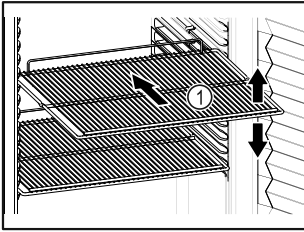

Fig. 60
- If there are adjustable shelves Fig. 60 (1), position them as required.